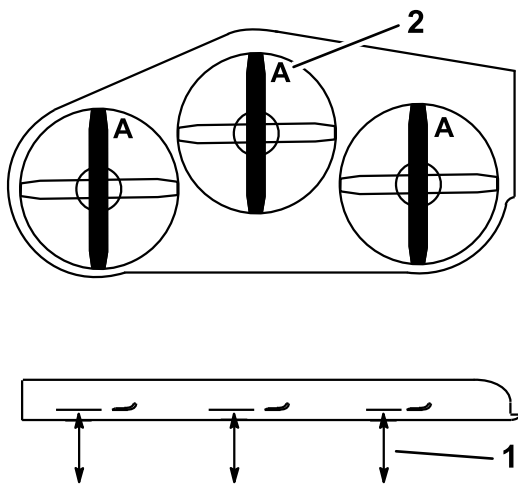

Figure 100
- Rotate the blades until the ends face forward and backward (Figure 100). Measure from a level surface to the cutting edge, position A, of the blades (Figure 100). Note this dimension.